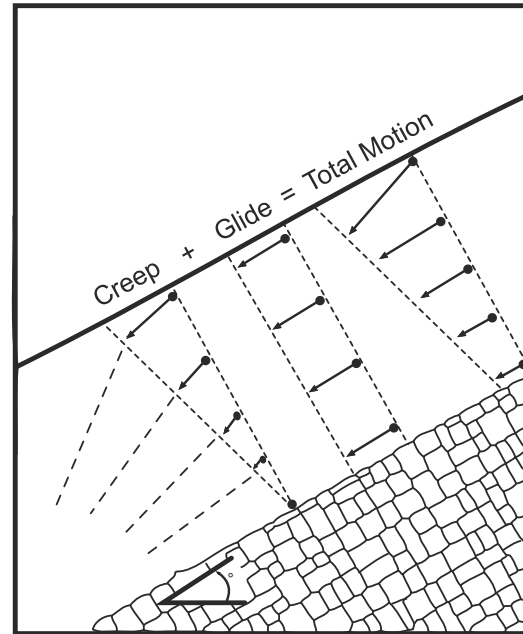

Figure 1-1. Creep and Glide.
- Creep and glide. Creep is the internal deformation of the snowpack. Glide is slippage of the snow layer with respect to the ground. Evidence of these two properties on the snowpack is a ripple effect at the bottom of a slope. It is an indication that the snow is gaining equilibrium and strength through this type of settlement process. See figure 1-1.